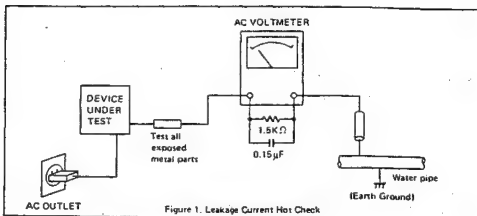

Figure 1. Leakage Current Hot Check
- 2) Connect a $1.5K\Omega$ 10 watt resistor, paralleled by $0.15\mu F$ capacitor, between each exposed metallic parts on the unit and a good earth ground such as a water pipe, as shown in figure 1.